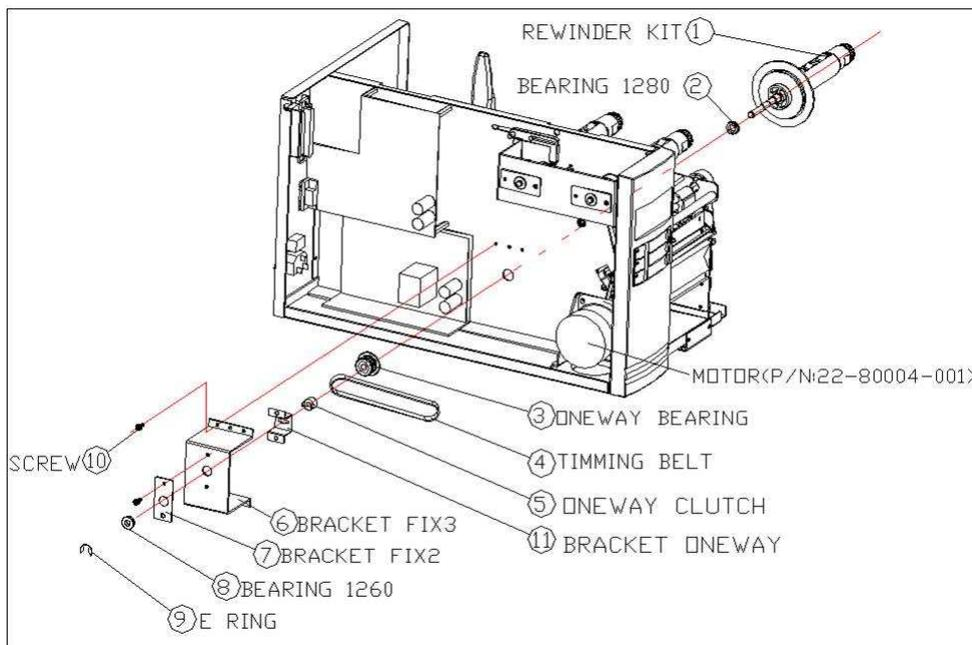

Figure 7.5
3. Assemble the related components for both left and right sides. Refer to the Figure 7.5.